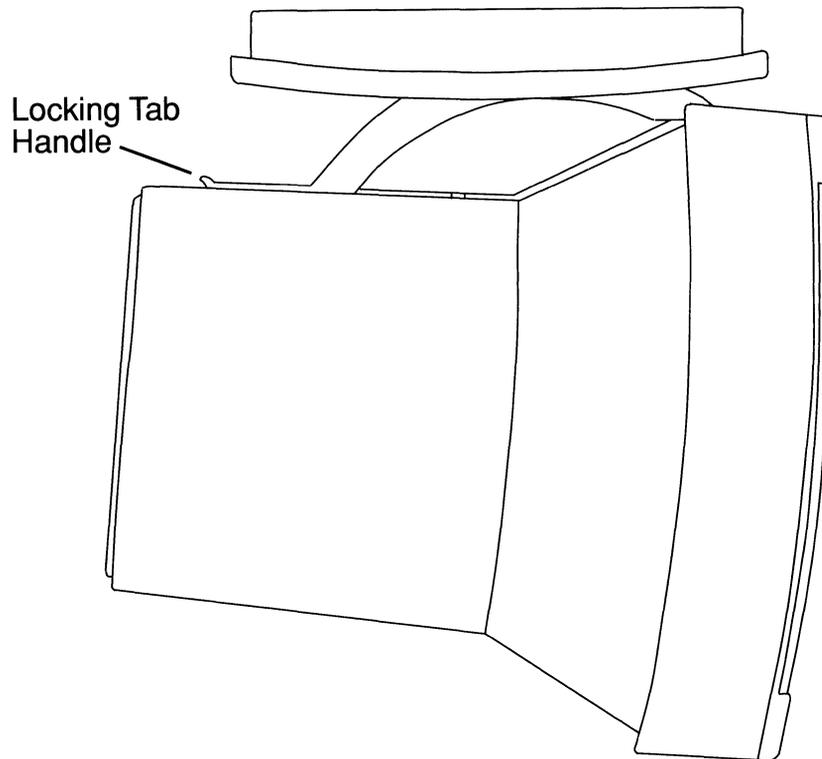

Figure 2-10. Location of Locking Tab Handle
- b. Locate the locking tab handle at the rear of the display unit. See Figure 2-10.